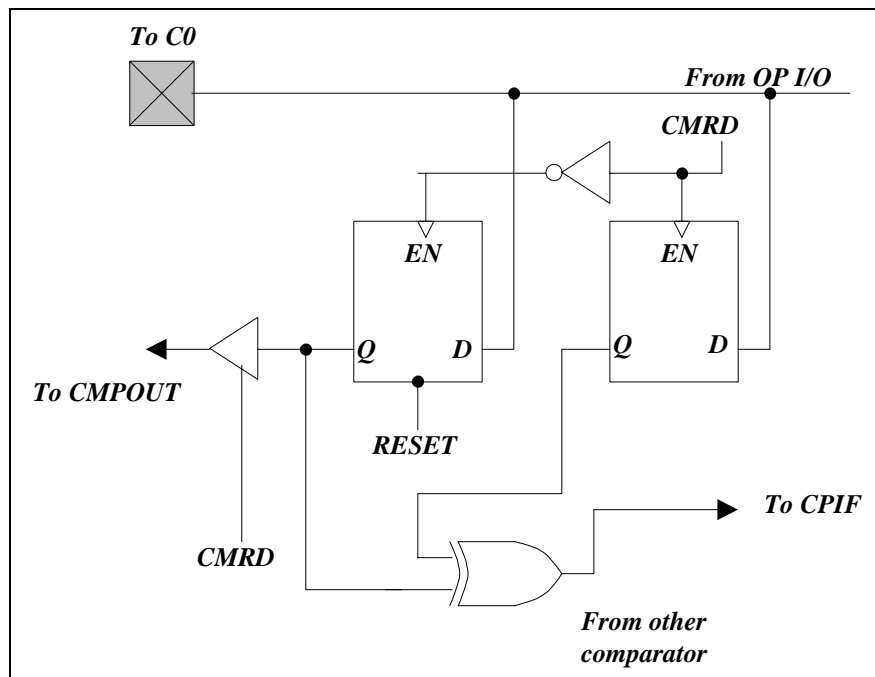

Figure 5-16 Output Configuration of a Comparator
- Figure 5-16 shows the comparator output block diagram.